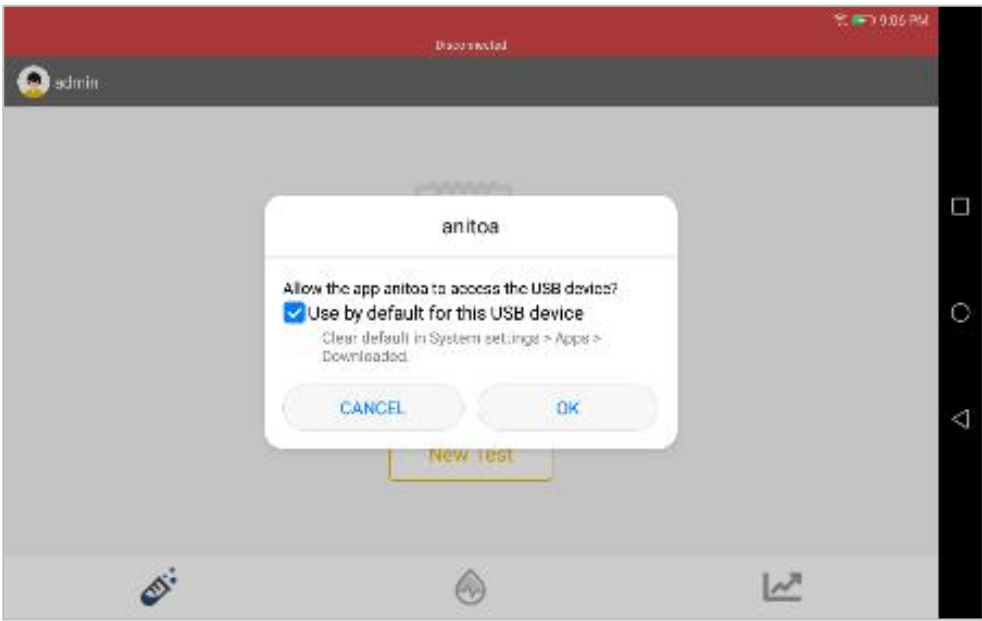

Figure 4.1-2 USB Access interface
2) When asked if the USB connection is allowed, click < OK>, as shown in Figure 4.1-2